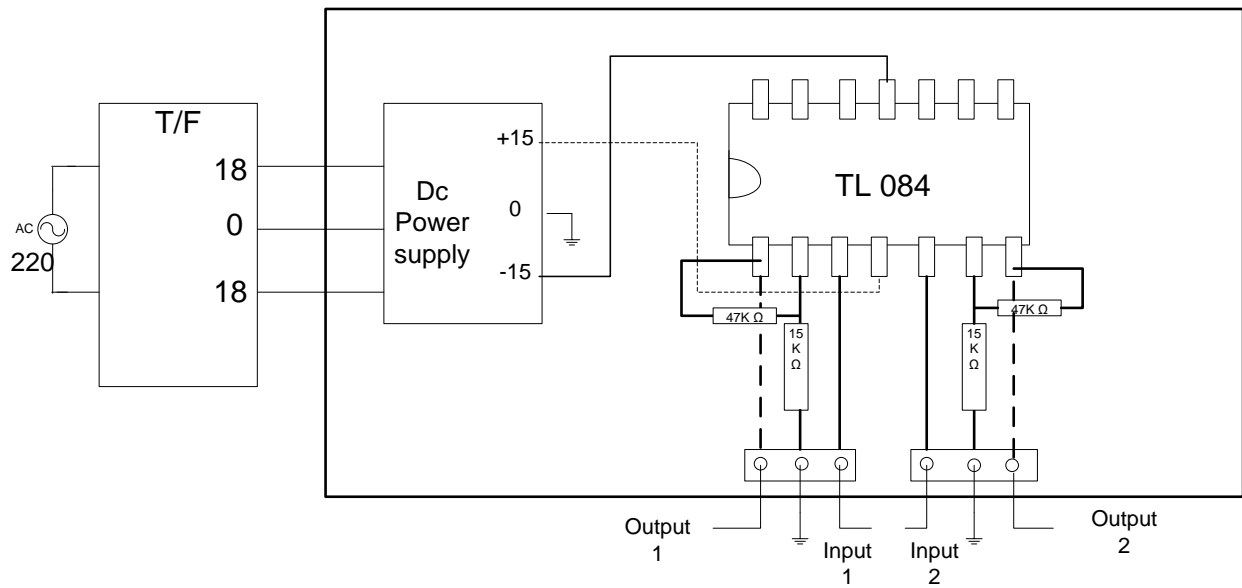

Fig. 3. Details of Non inverting amplifier circuit board.
- a. One board of non-inverting amplifier circuit has two amplifier circuits in it. (see fig3). It has an inbuilt power supply of $\pm 15\text{V}$. Two signals for the switches (switches 1 and 4 or 3 and 2) of same leg should be given in the same board. The output of the amplifier should be fed to driver circuits. And the same board should be used to give the power supply to the driver circuit (Skyper32). Care should be taken that before switching on the ac power given to the amplifier board, signals from the dSpace board is given to the respective tagged wires of the circuit.